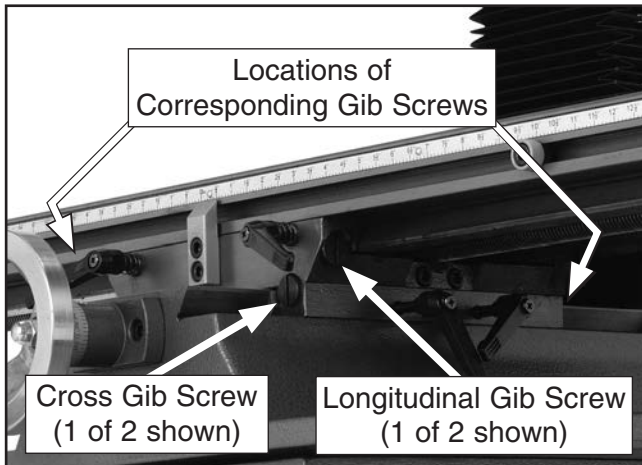

Figure 54. Table gib adjustment screw locations.
2. Loosen the table travel locks (**Figure 54**).
3. Loosen or tighten the front and rear gib screws (**Figure 54**) in an alternating manner to adjust the cross travel gib.